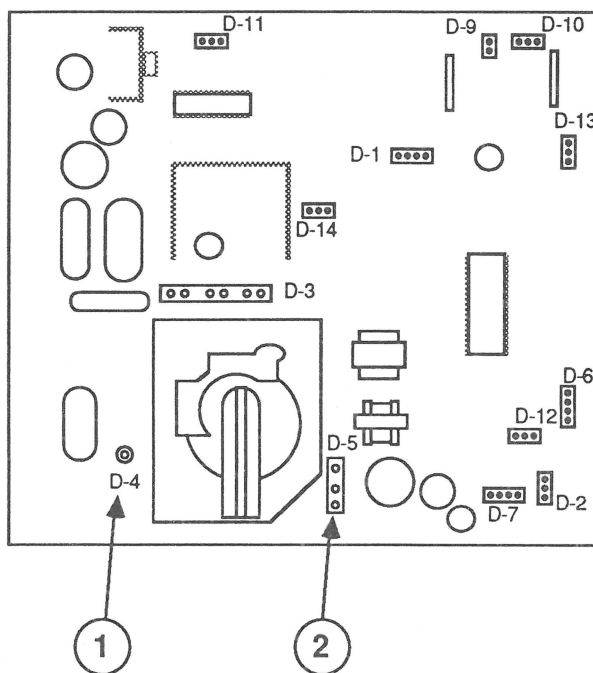

FIGURE 12
7. Detach from main logic board "D" the two connectors listed in Table 3 and shown in Figure 12.
2. Reconnect to main logic board "D" the two wires listed in Table 3 and shown in Figure 12.